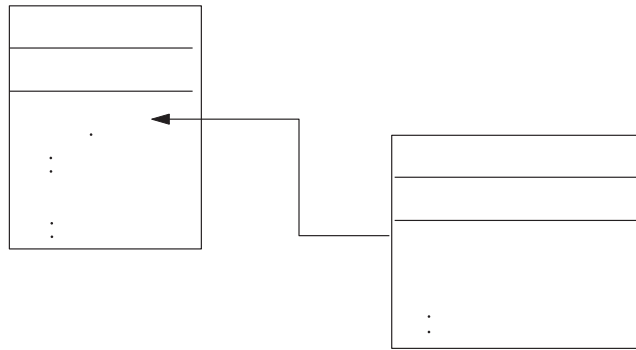

Figure 32. Example customer and sales view relationship
- In a multiple-cardinality relationship, the foreign key is determined by the primary key in the child referencing the **primary key** attribute in the parent. Each child has at least one simple attribute that contains the parent's primary key as a foreign key. The child has as many foreign-key attributes as the parent has primary-key attributes. Figure 32 on page 207 provides an example.
Figure 32 on page 207 provides an example of a different WebSphere business object developed to process customer objects in SAP. This example SAP\_Customer has a multiple-cardinality relationship to the example sales view object that it contains (the sales\_view\_data[n] attribute has cardinality n). The primary key attribute (customer\_id) in the child business object references the primary key (customer\_id) in the parent business object.